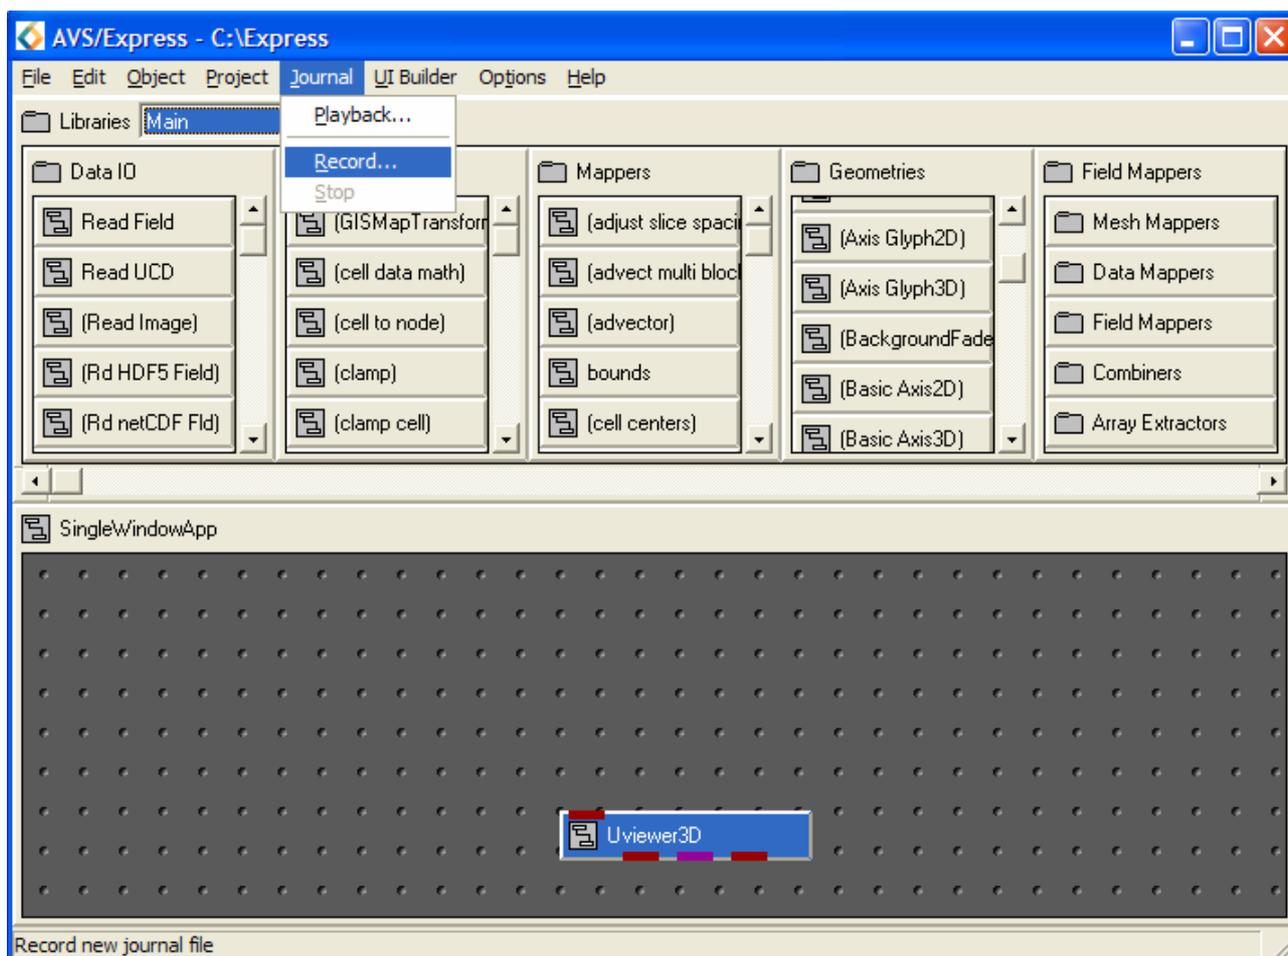

Figure A.2: **Journal** menu
- Select the **Playback** option from the **Journal** menu, Figure A.2. The **Playback File** pop up browser window will be displayed.